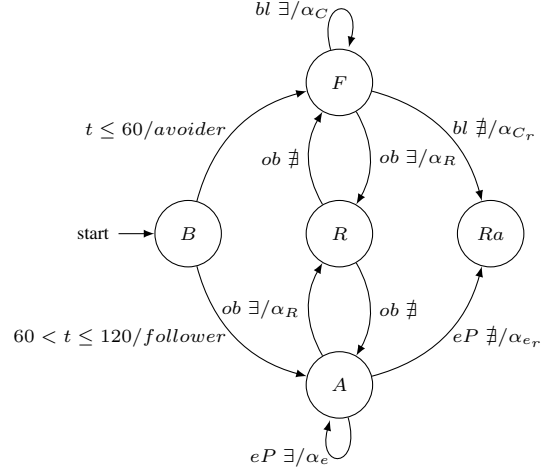

Fig. 1: Mealy DFSM of the controller
The DFSM diagram in Fig. 1, which is defined by (1), starts in the Behaviour state where the robot is set as *avoider* while the time simulation is  $t \leq 60[s]$ . During that time, the Foraging state looks for the green blobs with the Search blob/ePuck algorithm while avoiding obstacles using the Rebound algorithm. Moreover, a Random Movement state is used to introduce randomness to the system so the agent can take different paths if there is no blob or obstacle detection. For  $60 < t \leq 120$ , the Behaviour of the robot is set to *follower* and switches to Random Aggregation state where it uses both algorithms, the Rebound to follow ePucks with the proximity sensors and the Search to look for the closest ePuck wheels. For both algorithms, the output is the angle of attack  $\alpha_n$ , where  $n$  depends on the current state.